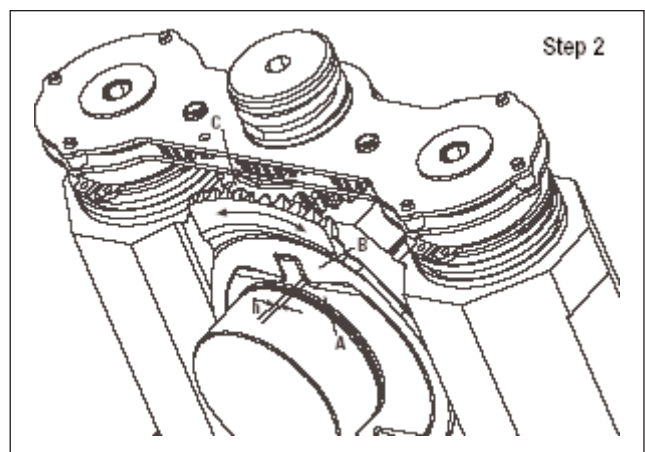

Fig 1.7
- c) Eccentric shaft A begins turning within the gear plate segment, eliminating clearance "h" between the adjuster gear section slot B and the shaft integral tab sides (Fig. 1.7).
- d) Adjuster gear segment begins to turn causing the rotation of bevel gear adjuster C (Fig. 1.7).